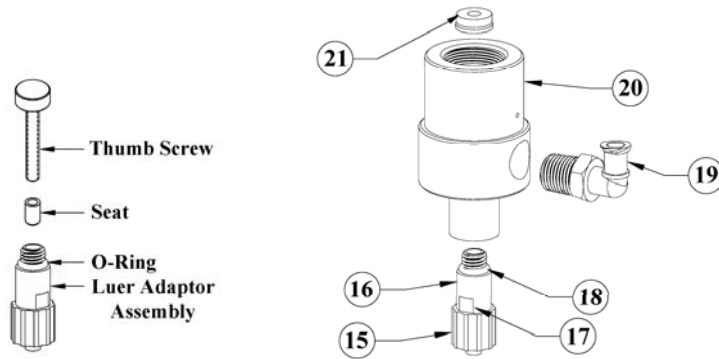

Figure 6.0
7.2 Nozzle Seat Replacement (refer to figure 6.0)